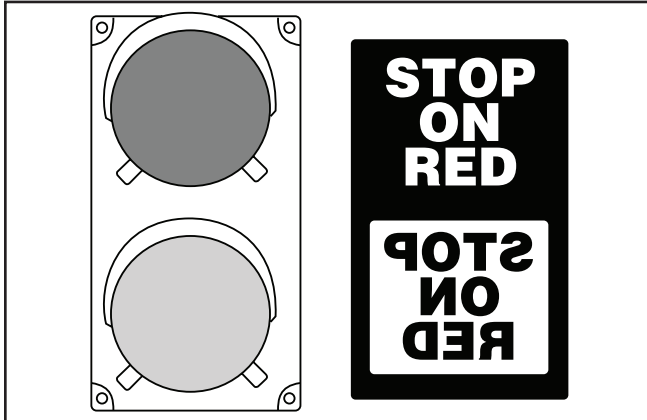

Figure 67: Outside Signal Lights and Signs
- One regular and one reversible instruction sign (Figure 67)